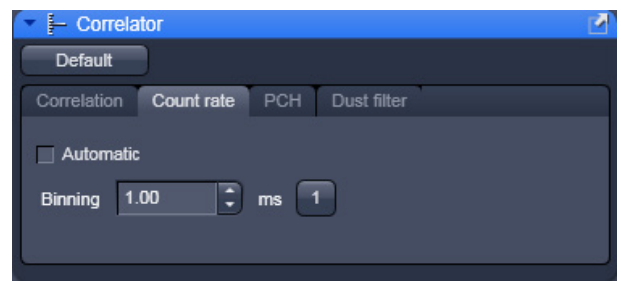

Fig. 267 Correlator tool - Count rate active
- Click on the **Count rate** tab to open the **Count rate** panel (Fig. 267). Click any other tab to leave the panel.